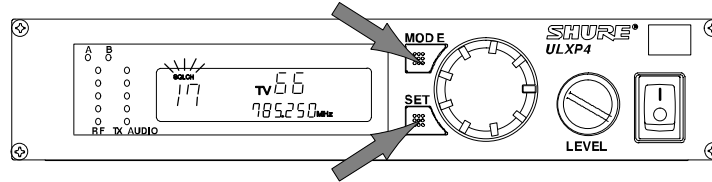

FIGURE 40
1. Hold down the SET button and press the MODE button twice. “SQLCH” will flash on the display, as shown in Figure 40.